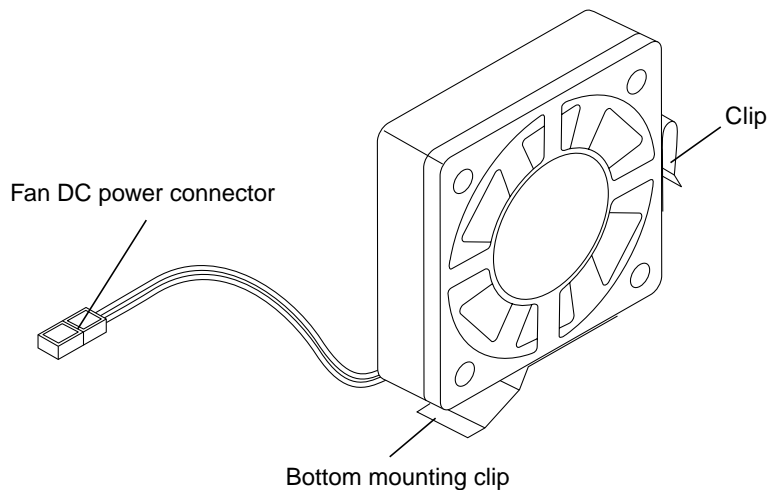

FIGURE 8-12 Fan Assembly
1. **Insert the fan bottom mounting clip into the opening at the bottom of the system chassis. Place the side mounting clip over the edge of the chassis (FIGURE 8-12).**